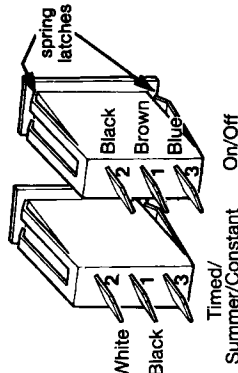

Fig. 37
Refer to fig. 37
8.18.29 To replace refer to fig 37 to ensure switch is in correct attitude and press into hole from the front until spring tabs latch. Refer to fig 37. for correct wiring details.